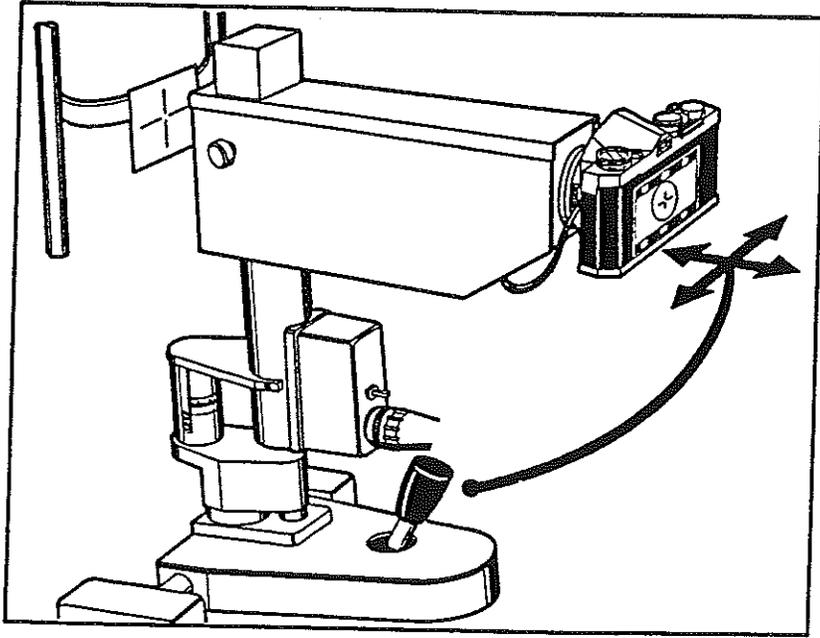

Fig. 18
- (b) Mark a cross '+' on a piece of card, and mount it on the head-rest as a target (Fig. 18).